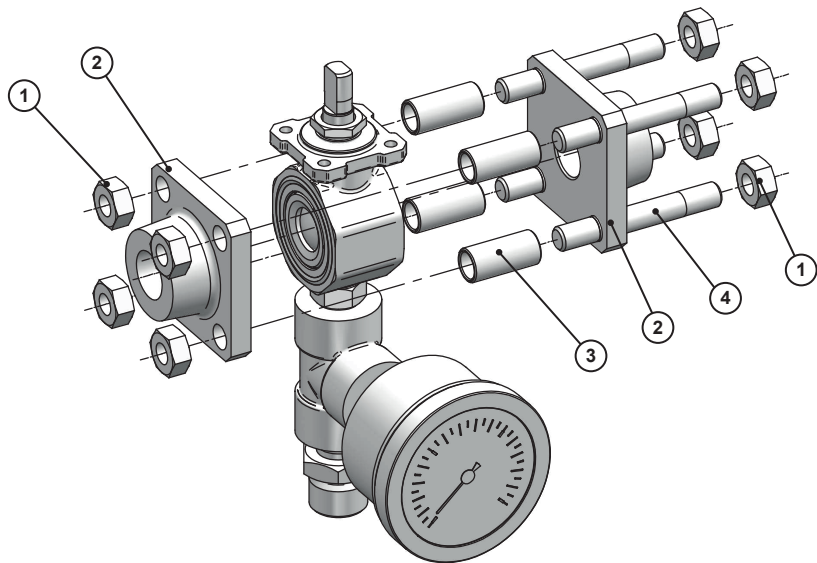

Fig. 21: Ball valve open
- 1. Turn the control rod as shown in Fig. 21.